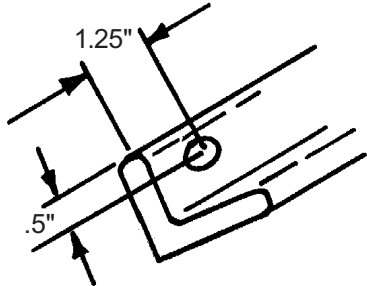

Figure 1
1. Drill a 17/32" (.531) hole in each end of upper blade angle. (See Figure 1.)